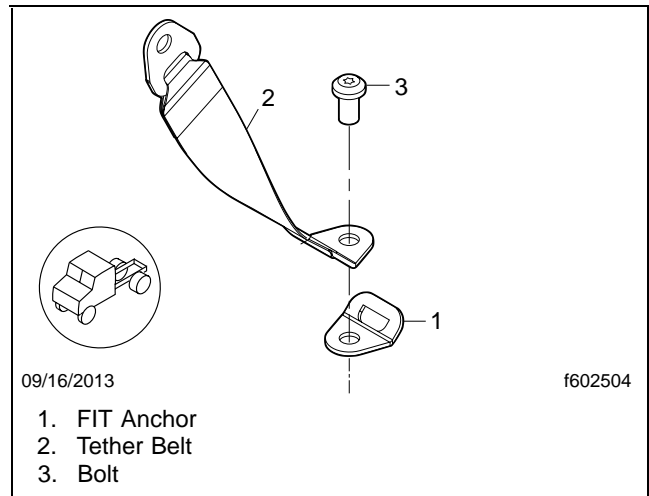

Fig. 3, Front Anchor Installation
3. Install the FIT anchors between the seat belt tether and the cab floor. See **Fig. 3**.